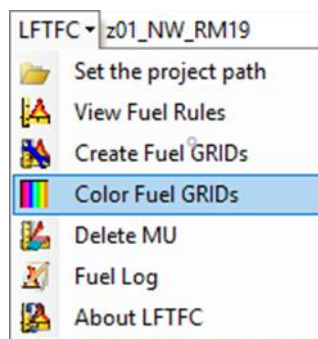

Figure 7-33. Select **FUEL Color** from the drop-down menu.
- To apply fuel grid colors, click **FUEL Color** on LFTFC's drop-down menu (Figure 7-33).